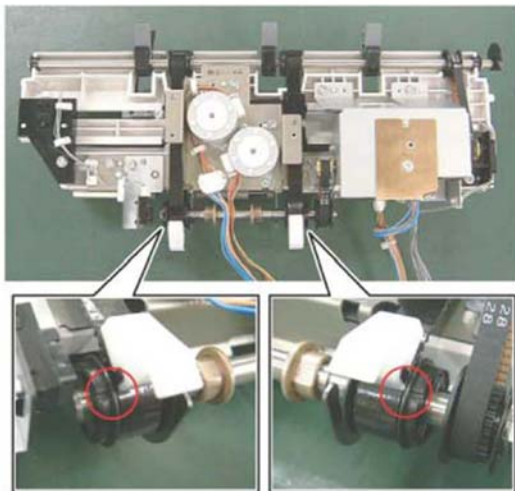

Figure 3 Eject belt installation
2. Ensure the eject belt is aligned with the marks on the pulleys, Figure 3.